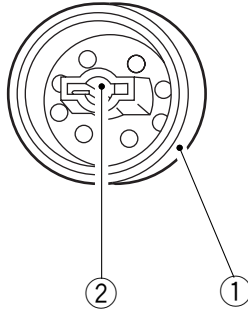

Figure 10-231
Attach the pick-up roll ① so that the side ② shown in Figure 10-231 is toward the rear.